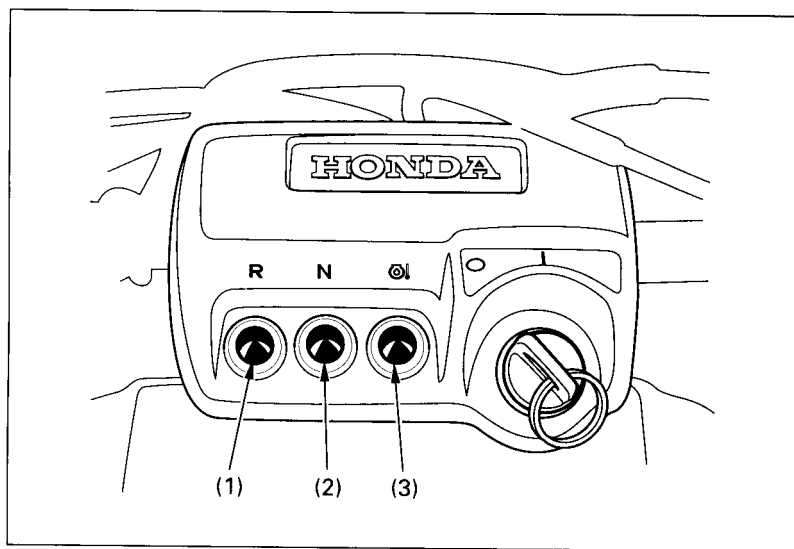

Fig. 2-18 (1) Reverse indicator lamp (3) Oil high temperature indicator lamp
If the engine oil gets too hot, the oil high temperature indicator lamp (Fig. 2-18) will light.
The reverse indicator lamp (1) and the neutral indicator lamp (2) (Fig. 2-18) are next to the ignition switch.